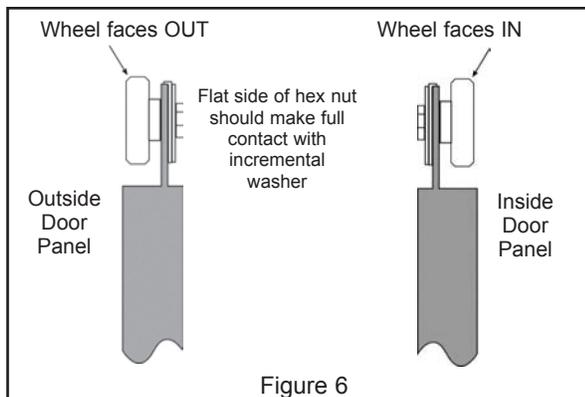

Figure 6
- B. Attach two Adjustable Ball Bearing Wheel Assemblies (#16) to the Top Rail (#8) of the Outside Door Panel (#4) with the wheel on the front surface of the “fin”. The metal parts should be against the frame, as shown here, and in Figure 5B. Make sure that the interlocking “bumps” and “dimples” on the two washers mate and that the top lip of the locking washer is over the edge of the Top Rail (#8) “fin”. Make sure that the FLAT side of the hex nut is against the incremental washer. Firmly tighten the hex nut but do NOT over-tighten. See Figure 6.
- C. Attach the remaining two Adjustable Ball Bearing Wheel Assemblies (#16) to the top of Inside Door Panel (#5) with the wheels on the *back* surface of the “fin”, facing the *inside* of the enclosure as shown in Figure 6. Tighten the hex nut firmly, but do NOT over-tighten.